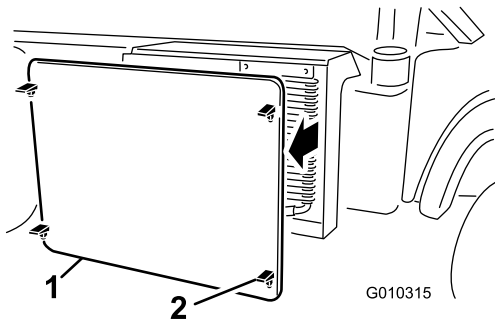

Figure 61
2. Unlatch and remove the radiator screen from the front of the radiator (Figure 61).